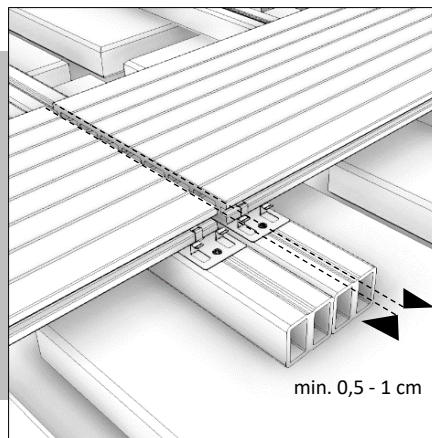

FIG. 2
- Always use 2 adjacent joints and double clips underneath the butt joints of the decking boards (Fig. 2).
- Never mount the decking boards without any space in between, but ensure there is sufficient space in-between. A minimum of 0,5 cm for decking boards up to 220 cm in length and a minimum of 1 cm for decking boards longer than 220 cm (Fig. 2).